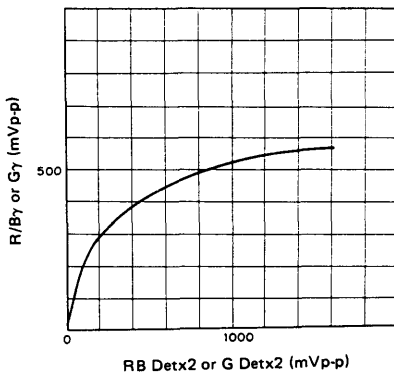

Fig. 5
- [5] γ and knee characteristics (Fig. 5)